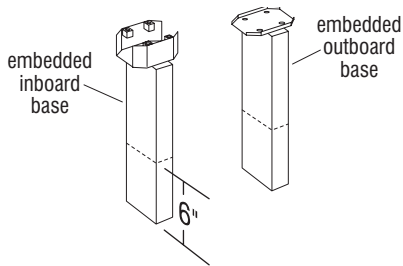

Figure 3
1. Embedded bases **must** be set in concrete 6" below floor level (Figure 3).